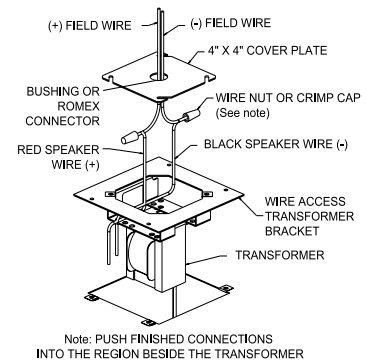

Fig. 4: Alternate Wiring (conduit)
2. **ALTERNATE WIRING METHOD — IN/OUT CONDUIT** (Fig. 4):